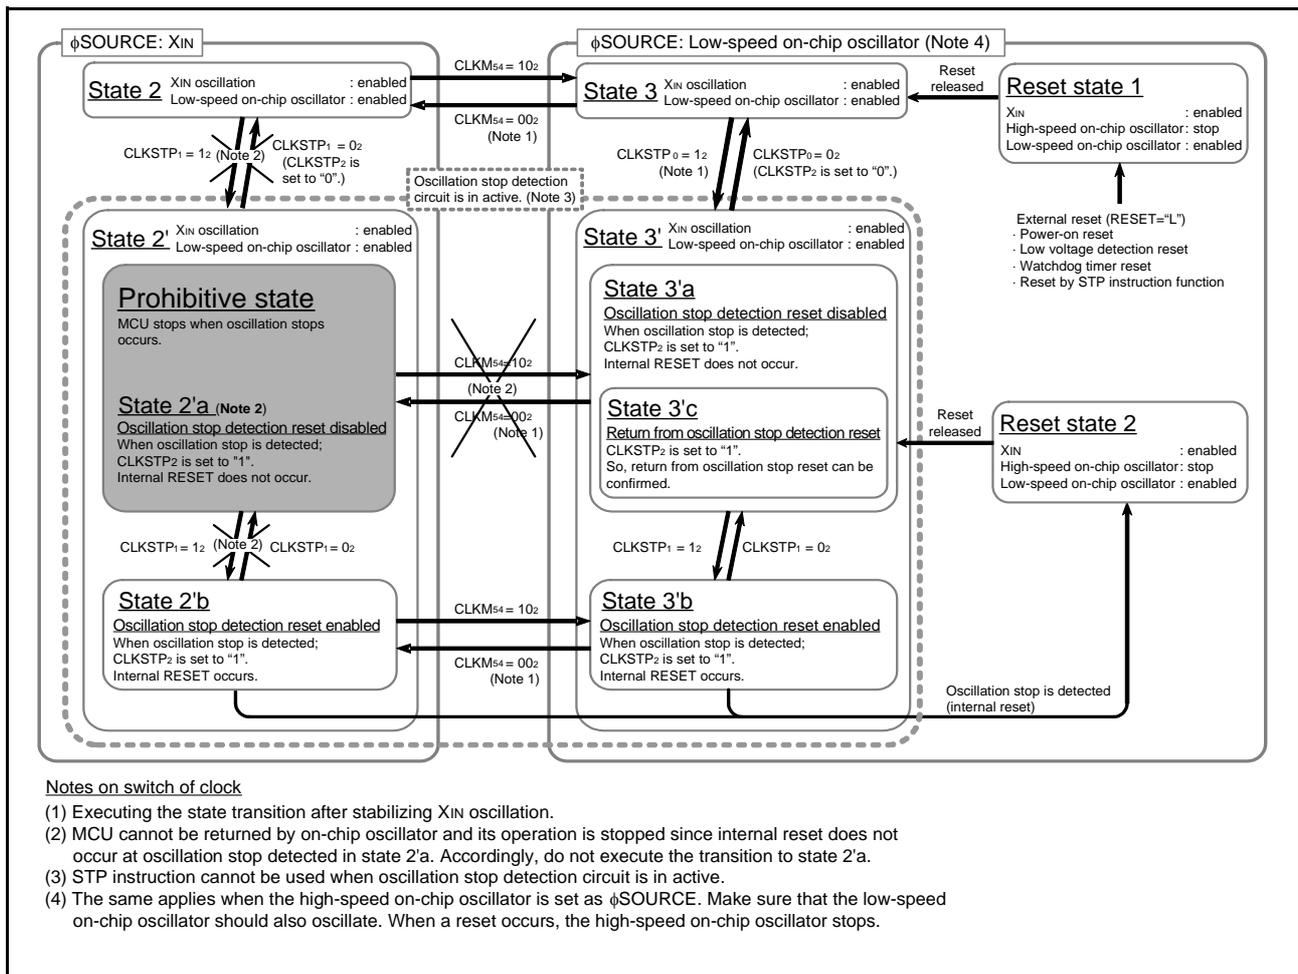

Fig 69. State transition of oscillation stop detection circuit
- (1) Do not execute the transition to “state 2’a” shown in Figure 69 State transition of oscillation stop detection circuit. In this state, no reset is triggered and the MCU is stopped even when the XIN oscillation stops.
- (2) After an oscillation stop detection reset, if this reset is enabled while bits XIN oscillation stop detection function active and oscillation stop detection status are retained, a reset is triggered again.
- (3) The oscillation stop detection status bit is initialized under the following conditions:
- (4) While the oscillation stop detection function is in active, the oscillation stop detection status bit may set to 1 when the watchdog timer underflows or by a reset when the STP instruction is executed with the STP instruction function selection bit set to 1.